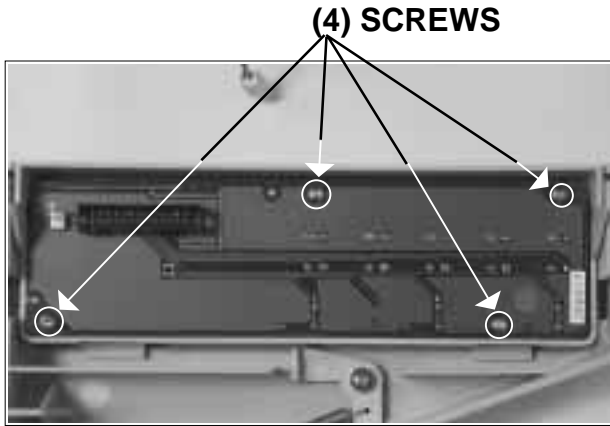

Fig. 6-72
5.	Remove (4) screws and remove the Display Panel PCB. Fig. 6-72 & 6-73
6.	Replace the display panel PCB and secure with (4) screws. Reconnect cable connectors.